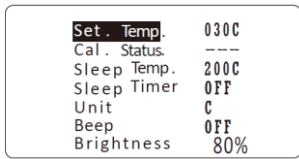

Fig.5
3.1. When Cal. status display "----"(see Fig 5) , it means temperature have not calibration.